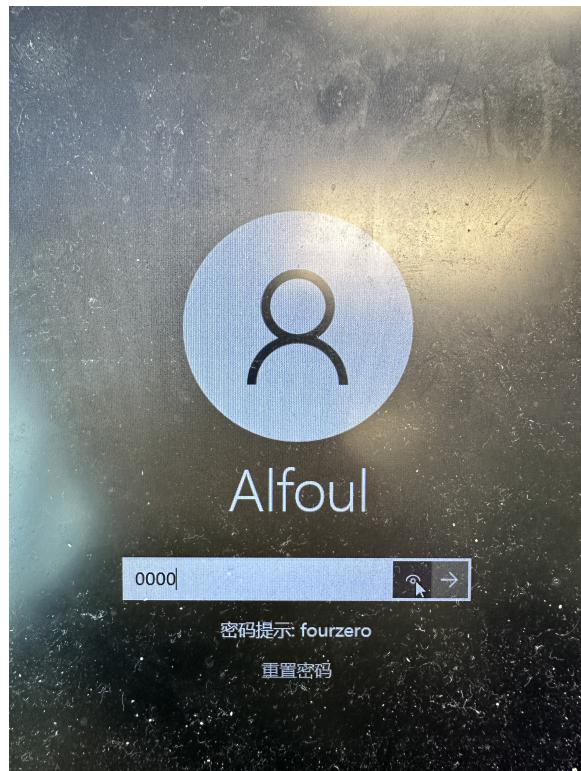

Figure 6: Login page
2. Use password “0000” to log in to the Windows account [Figure 6]